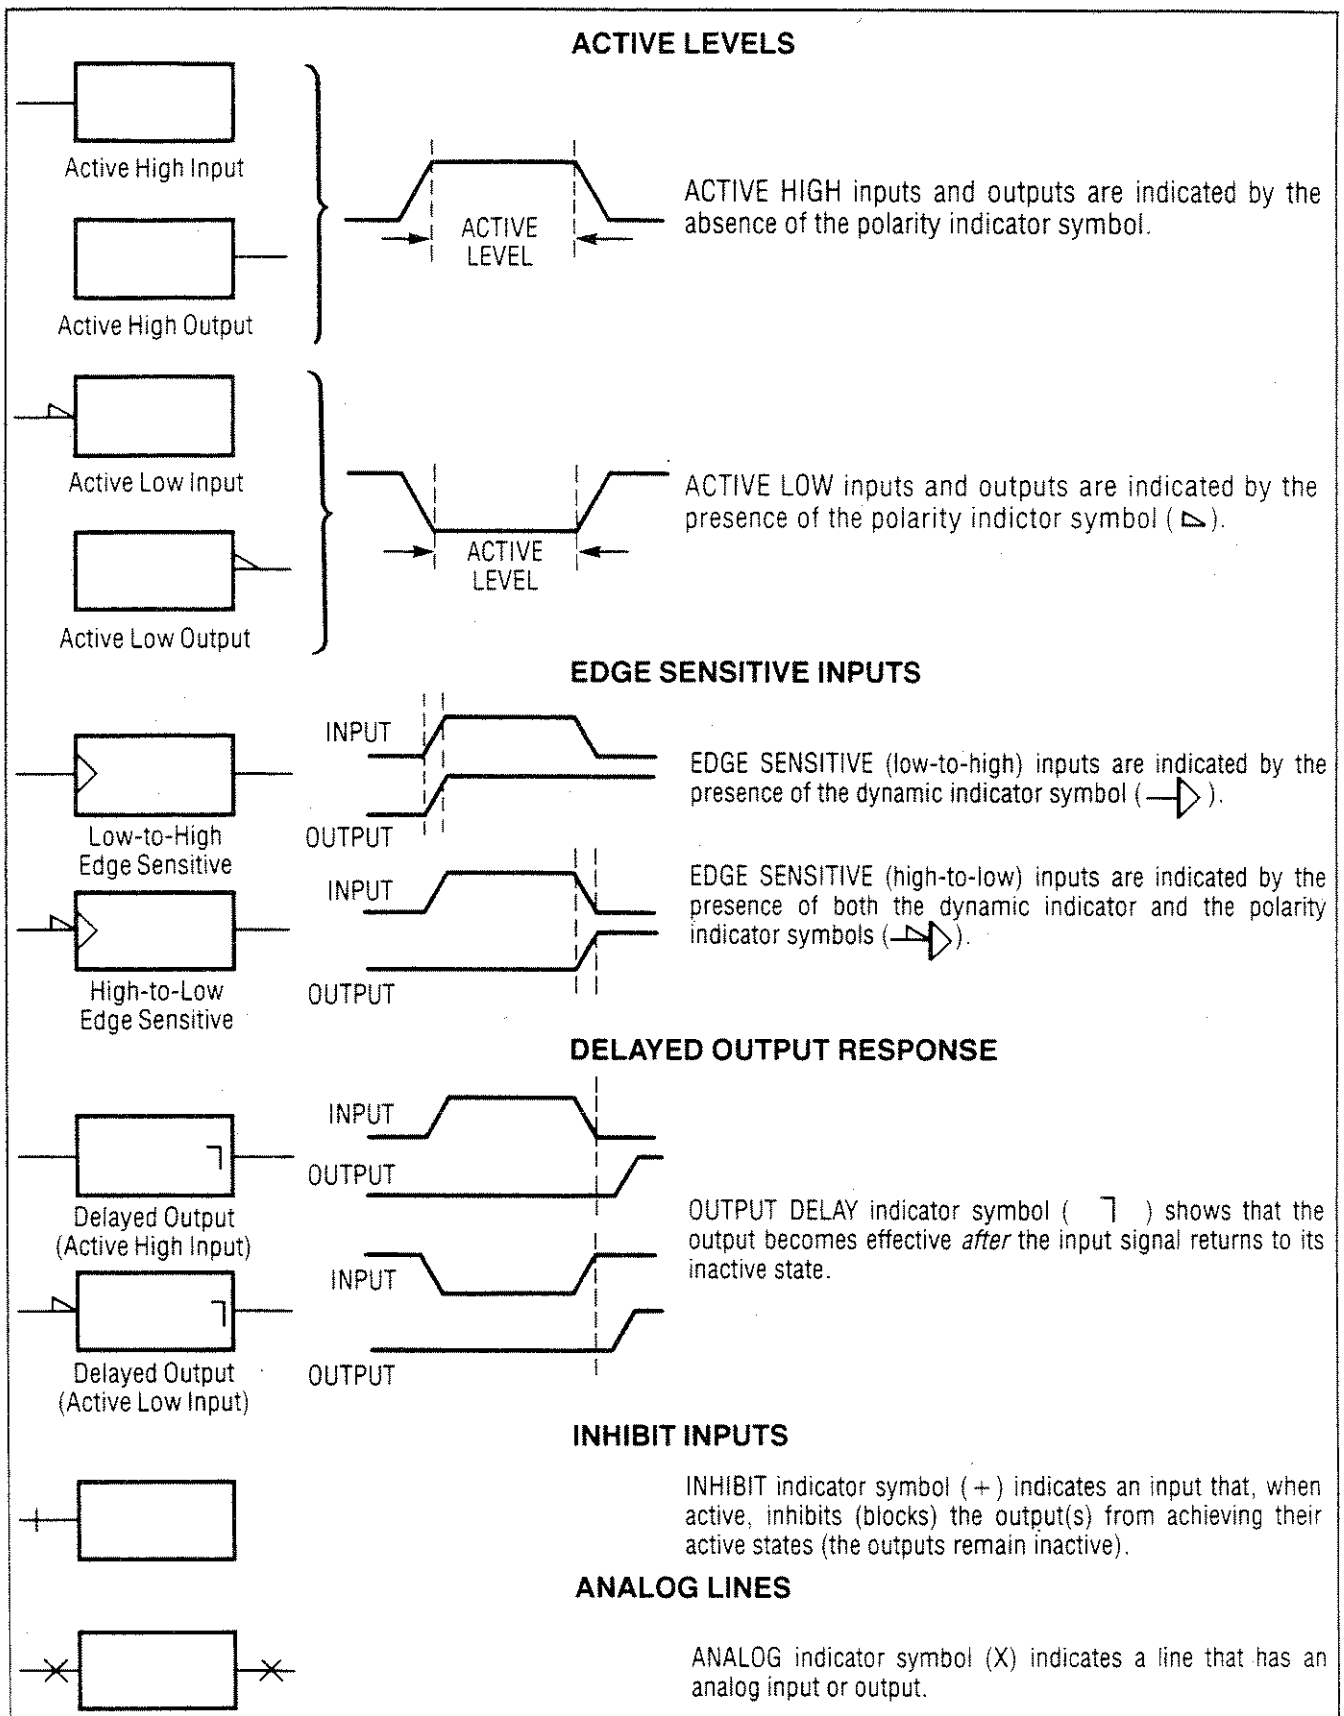

Figure 8-90. Indicator Symbols
**Indicator Symbols.** Indicator symbols identify the active state of a device's input or output, as shown in Figure 8-90.